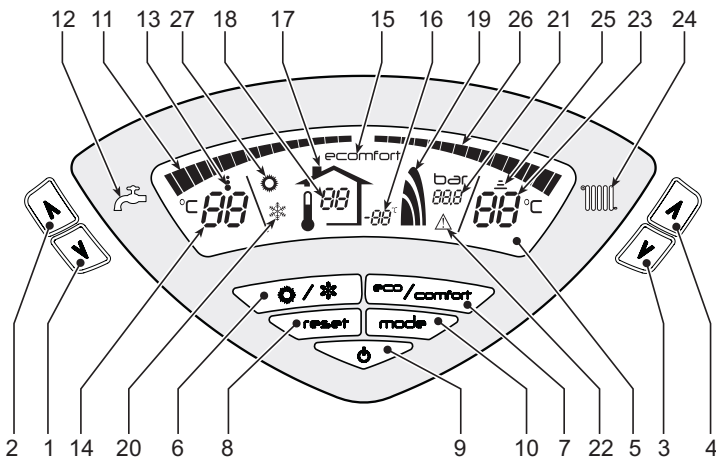
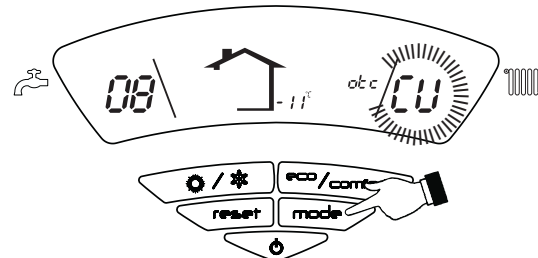

fig. 1 - Control panel
fig. 11 - Compensation curve
A heating demand (generated by the Room Thermostat or Remote Timer Control) is indicated by flashing of the symbol **Heating Mode** (detail 25 - fig. 1).
The heating graduation marks (detail 26 - fig. 1) light up as the heating sensor temperature reaches the set value.
A DHW demand (generated by drawing domestic hot water) is indicated by flashing of the symbol **DHW Mode** (detail 13 - fig. 1). Make sure the Comfort function (detail 15 - fig. 1) is activated
The DHW graduation marks (detail 11 - fig. 1) light up as the DHW sensor temperature reaches the set value.
When hot water tank heating is activated (default setting), the COMFORT symbol (detail 15 - fig. 1) is activated on the display, and when off, the ECO symbol (detail 15 - fig. 1) is activated on the display
The hot water tank can be deactivated by the user (ECO mode) by pressing the eco/comfortfig. 1 button (detail 7 -). To activate the COMFORT mode, press the eco/comfort button (detail 7 -)fig. 1 again.
Press the **on/off** button (detail 9 - fig. 1) for 1 second.
To relight the boiler, press the **on/off** button (detail 9 fig. 1) again for 1 second.
- Press the ON/OFF button (9 - fig. 1)
Press the **summer/winter** button (detail 6 - fig. 1) for 1 second.
The display activates the Summer symbol (detail 27 - fig. 1): the boiler will only deliver domestic hot water. The antifreeze system remains activated.
To deactivate the Summer mode, press the Summer/Winter **button** (detail 6 - fig. 1) again for 1 second.
Use the **heating** buttons (details 3 and 4 - fig. 1) to adjust the temperature from a min. of 30°C to a max. of 80°C.
Use the **DHW** buttons (details 1 and 2 - fig. 1) to adjust the temperature from a min. of 10°C to a max. of 65°C.
When the optional external probe is installed, the control panel display (detail 5 - fig. 1) shows the actual outside temperature read by the probe. The boiler control system works with "Sliding Temperature". In this mode, the heating system temperature is controlled according to the outside weather conditions in order to ensure high comfort and energy saving throughout the year. In particular, as the outside temperature increases the system delivery temperature decreases according to a specific "compensation curve".
With Sliding Temperature adjustment, the temperature set with the heating buttons (details 3 and 4 - fig. 1) becomes the maximum system delivery temperature. It is advisable to set a maximum value to allow system adjustment throughout its useful operating range.
Press the **mode** button (detail 10 - fig. 1) once to display the actual compensation curve (fig. 11) which can be modified with the **DHW** buttons (details 1 and 2 - fig. 1).